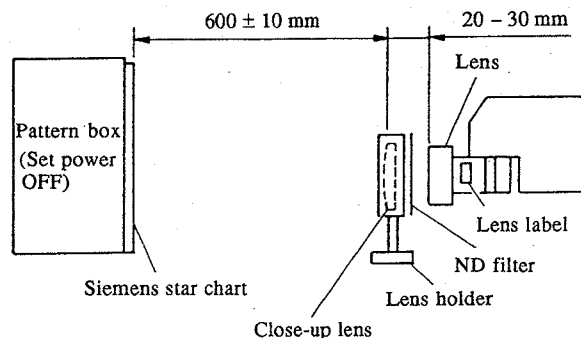

Fig. 4-13
- 1) Position the camera as shown in Fig. 4-13.